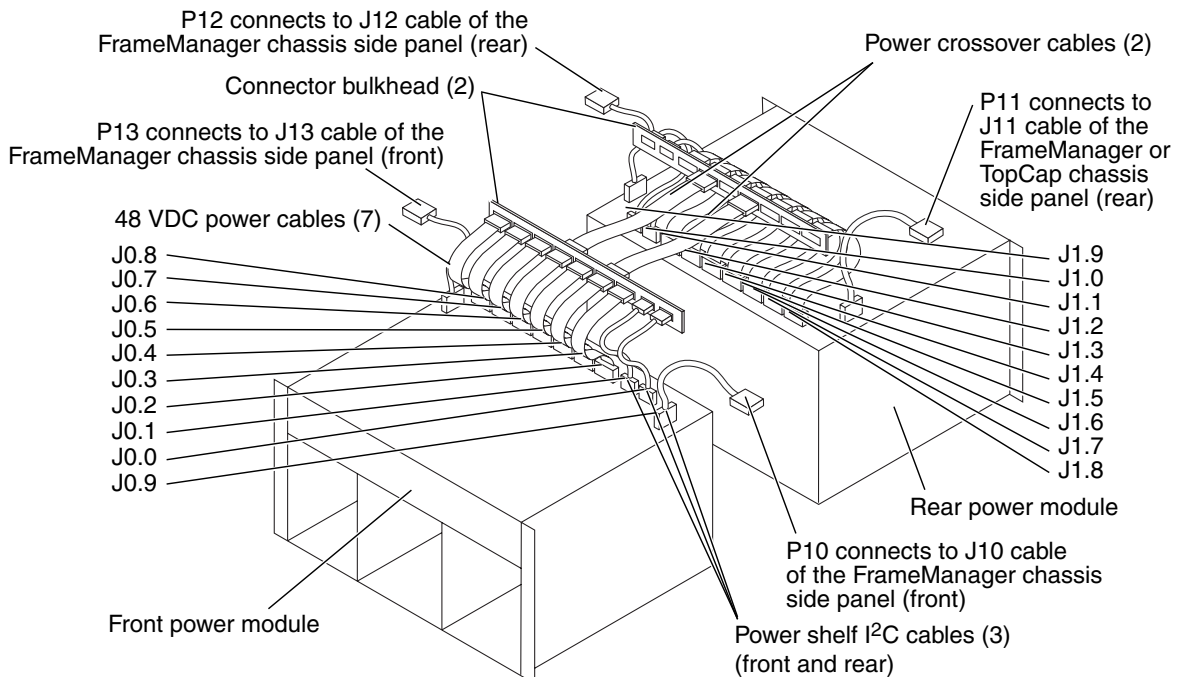

FIGURE 16-10 48 VDC Power Cables
2. Remove the twenty-two (22) M4x30 panhead screws retaining the air plenum cover, and remove both the plenum cover and the honeycomb EMI filter panel.
3. Reach inside the system, below the fan trays, and release the four (4 per cable) male jackscrews holding the 48 VDC cable assemblies to both the top of the power shelf assembly and the cable retaining bracket (FIGURE 16-10).
Similarly, there is a third cable connecting to the side panel that eventually goes to the FrameManager assembly that can be replaced in the same manner. See FIGURE 16-10.
See FIGURE 16-10.